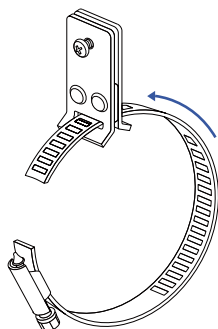

Figure 2
5. Your application will require a pair of large or small adjustable clamps, to secure the brackets to the pipe (or valve). Choose the smallest appropriate size and thread the adjustable clamp through both sides of the bracket and around the pipe/valve as shown in Figure 2 above.